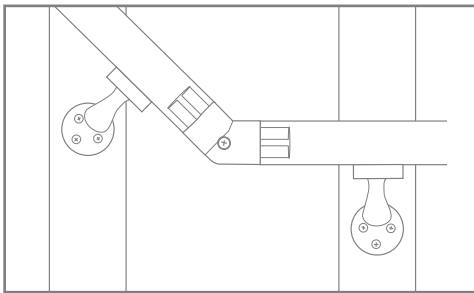

Fig. 11
- Assemble and position the adjustable joiner on the outside of the Hand Rail and tighten the bolt at the appropriate angle - Fig. 11.